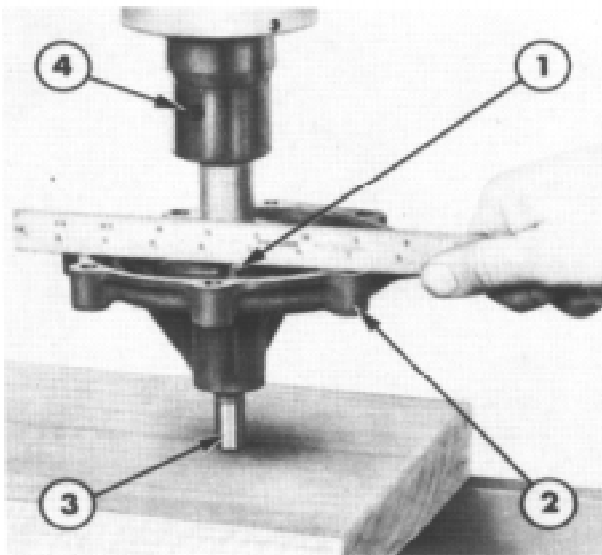

Figure 6
4. Support the shaft on a block of wood so as not to damage its end. Using the arbor press, $\frac{3}{4}$ in. (19.050 mm.) I.D. gas pipe and Step Plate, press the impeller onto the shaft, Figure 6, until it is flush with the rear face of the housing. Check with a straight edge across the housing and impeller vanes to ensure correct final position.